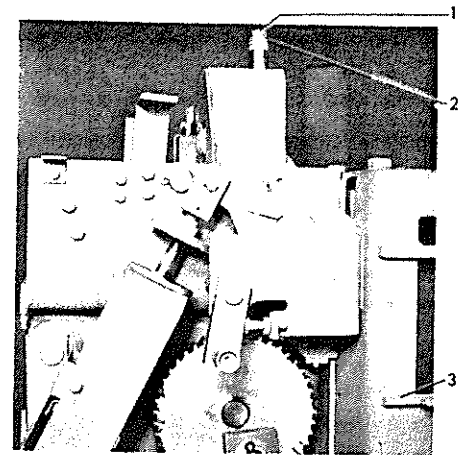

Figure 14. (8034464) Plunger Interlock
Refer to Figure 14. With the breaker in the closed position, the vertical distance "A" from the top of the plunger bolt (1) to the bottom of the breaker lifting rail (3) should be  $16-19/32''$  to  $16-23/32''$ . To change this adjustment, add or remove washers (2).